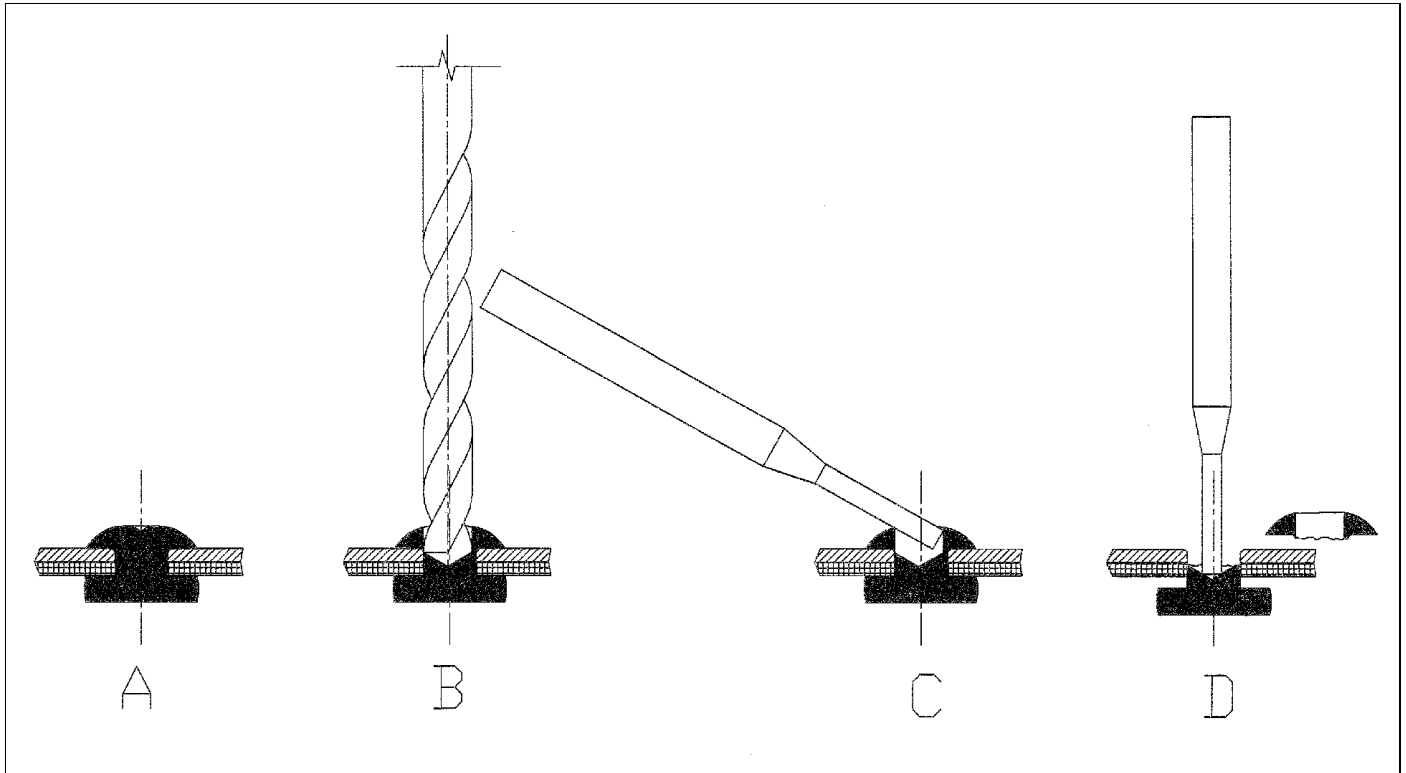

Figure 3.1.1.1): Rivet Removal Process
- 3.1.1.1) There is a trick to drilling off rivets without messing up the rivet hole. Refer to Figure 3.1.1.1) below. Centering the drill on the rivet head is very important, of course, and the dimple helps (see view A). Nonetheless, there is no way to be absolutely centered every time. Therefore, use a drill that is at least 1/32" undersize for the rivet you are drilling. View B shows how an undersized drill allows being a bit off-center without harming the hole. Remember, do not drill beyond the rivet head. Stop drilling when you are through the head, and you will have a little material still keeping the rivet head attached to the shank. A pin punch in the hole, aimed in the right direction and given a slight tap, will remove the rivet head (see view C). The shank will still be in the hole, but can be punched out with